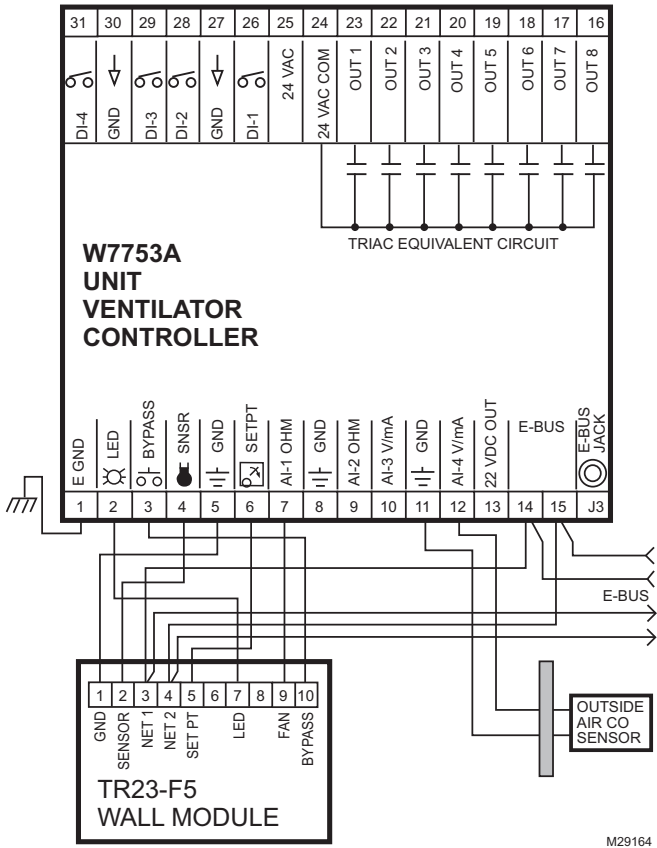

Fig. 9. Typical W7753A unit ventilator application wiring diagram with T7770F wall module. (For note 2, refer to Fig. 8.)
- Keep the earth ground connection (terminal 1) wire run as short as possible. Refer to Fig. 9 through 14.
- Do *not* connect the analog or digital ground terminals (5, 8, 11, 27 and 30) to earth ground. Refer to Fig. 9 through 14.
The W7753A Controller has the terminal arrangements shown in Fig. 9 through 14. Connection for operator access to the E-Bus is provided by plugging the Serial LonTalk® Adapter (SLTA) connector into the E-Bus jack.